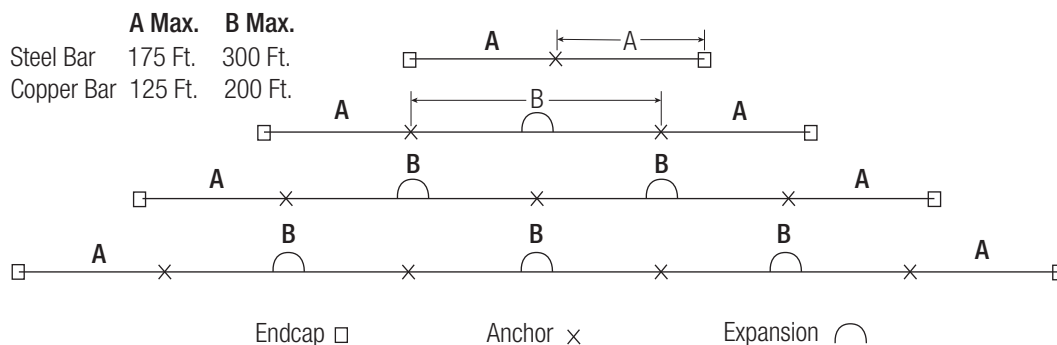

Figure: 8-2
8.1.2 Follow installation drawing, if no drawing is available, see **Figure 8-2**.
8.2.1 Anchor points are required at midpoint on all systems without expansion sections. For systems with expansion sections, anchors are required midpoint between expansions and between the first and last expansions and the ends of the run. See **Figure 8-2**.
- Dimensions “A & B” in Figure 8-2 are based on a system temperature range of 100° F.